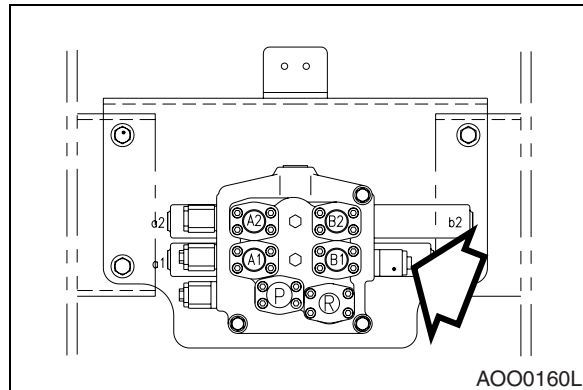

Figure 103
3. Adjust screw on relief valve cartridge (Figure 103). Loosen lock nut and turn screw clockwise to raise relief pressure. Turn screw counterclockwise to lower relief pressure.